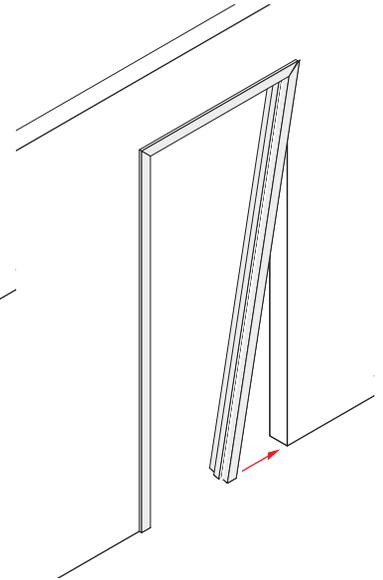

Figure 12: Install Strike Jamb
4. Install Strike (or 2nd hinge) Jamb (Figure 12)